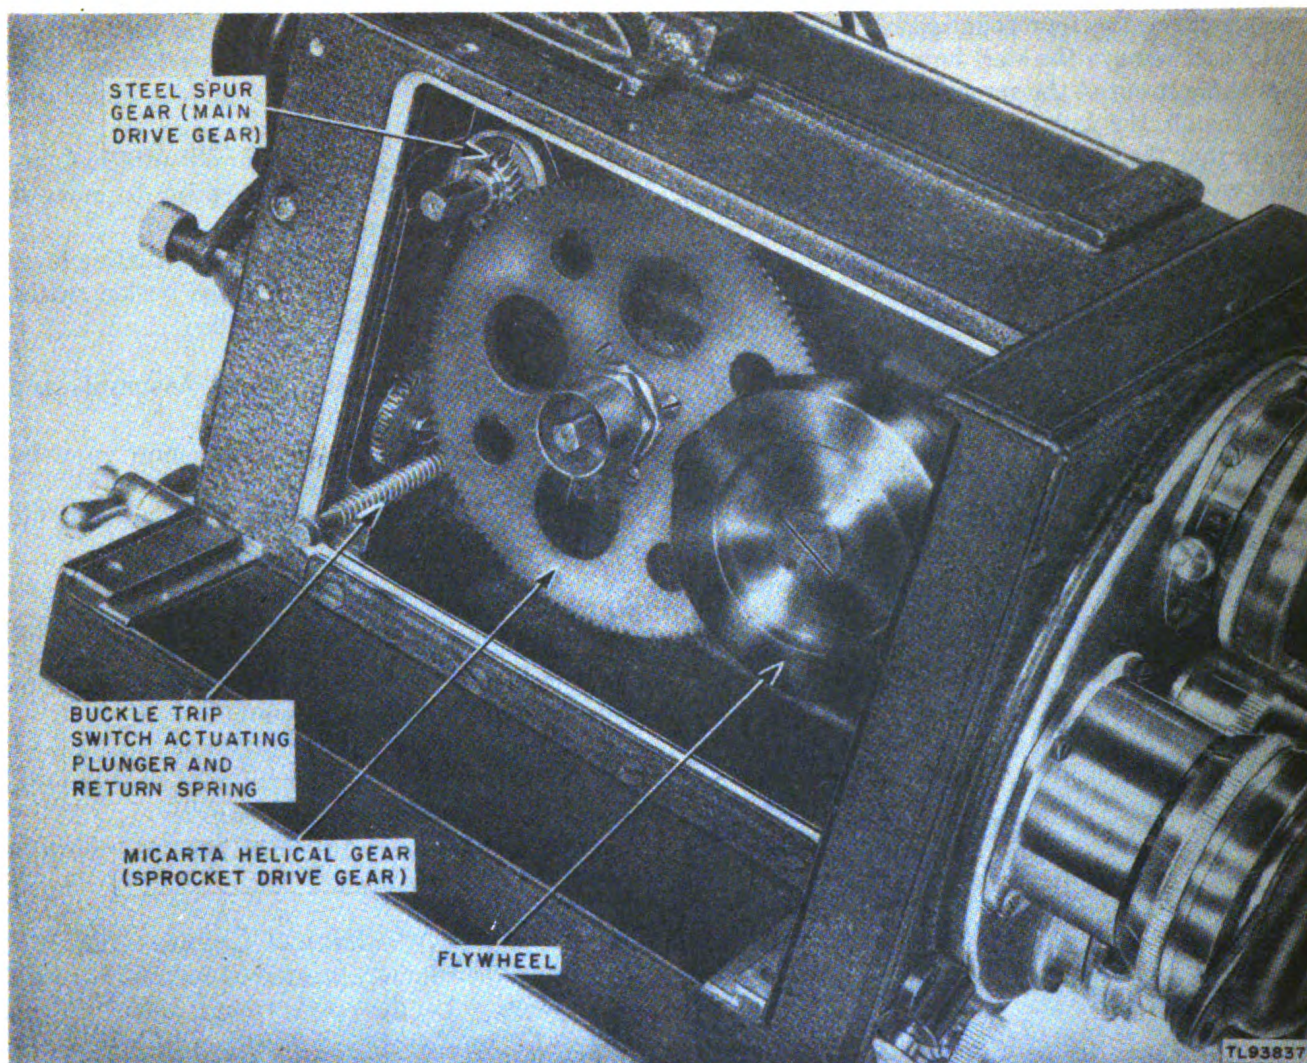

Figure 130. Right side of camera box, showing buckle switch trip unit partially removed.
70. Replacing Buckle Switch Trip Unit (fig. 130)